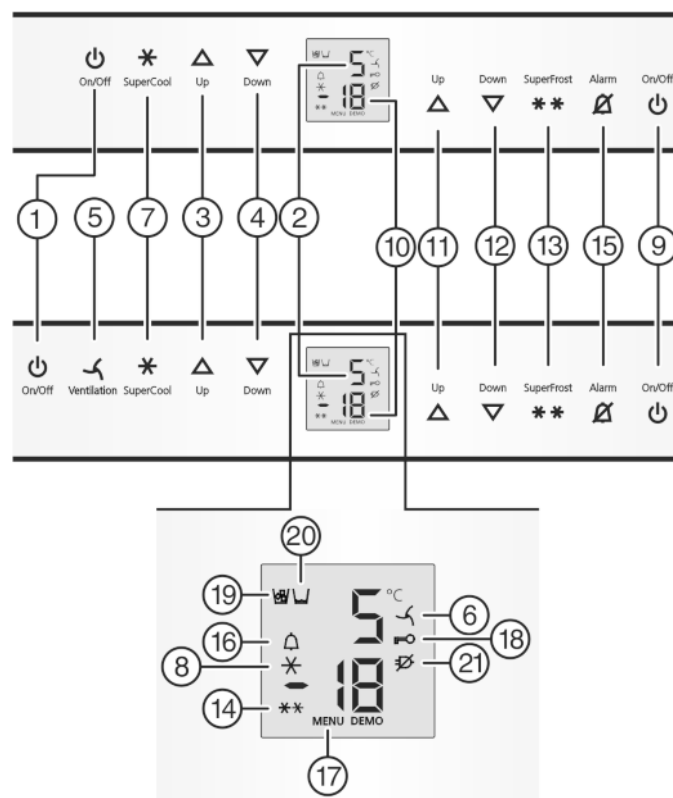

Fig. 2
- Press On/Off button, freezer compartment *Fig. 2 (9)*.
- Press On/Off button, refrigerator compartment *Fig. 2 (1)*.
- To activate the setting mode: press SuperFrost button *Fig. 2 (13)* for about 5 s.
- ▷ The menu symbol *Fig. 2 (17)* shines.
- Briefly press the SuperFrost button *Fig. 2 (13)* to confirm. When cl is indicated in the display:
- To activate the child lock, briefly press the SuperFrost button *Fig. 2 (13)*.
- ▷ The child lock symbol *Fig. 2 (18)* shines. c flashes in the display.
- to deactivate the child lock, briefly press the SuperFrost button *Fig. 2 (13)*.
- ▷ The child lock symbol *Fig. 2 (18)* goes out. c flashes in the display.
- To deactivate the set-up mode: press On/Off button, freezer compartment *Fig. 2 (9)*.
- Press alarm button *Fig. 2 (15)*.
The temperature display and the alarm symbol *Fig. 2 (16)* flash at the same time.